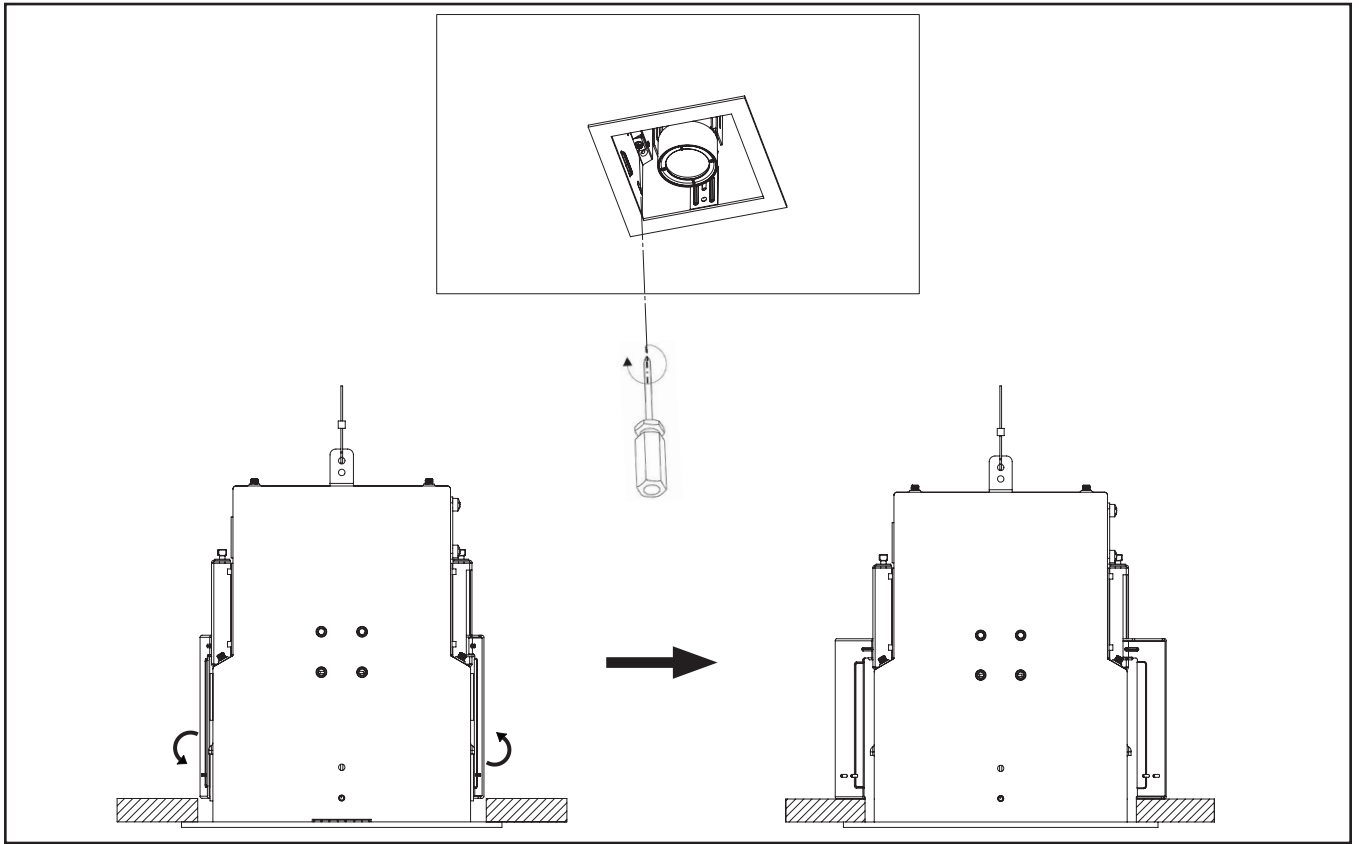

Figure 2.6.
- Loosen the speed-clamp screws using screwdriver, unscrew until the point bracket opens, continue to loose the screws till bracket sits on ceiling/ sheet rock. (Figure 2.6)